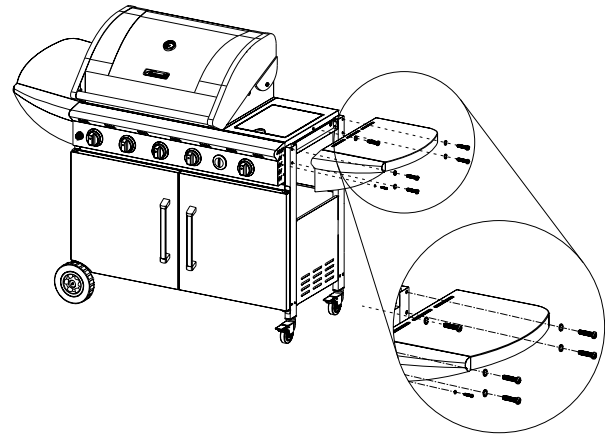

Figure 16
2. Attach left side shelf to cart leg using (5) 1/4 x 1/2" Phillips head screws and (5) 1/4" lock washers. Then use (1) s.s. 5/32 x 3/8" Phillips head screw and (1) 5/32" lock washer preinstall on control panel to attach side burner control panel to main control panel. (Fig.16)